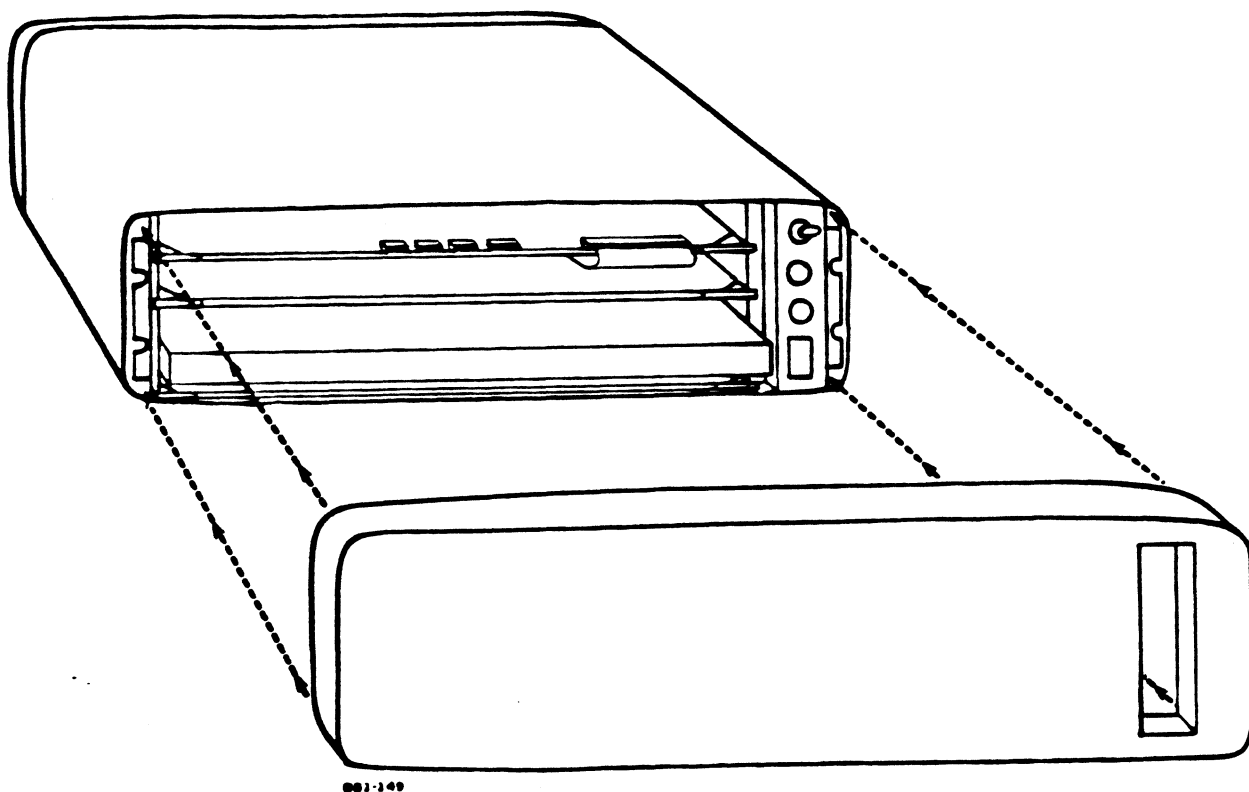

Figure 2-2. Removing the Rear Panel
4. Snap off the rear panel of the computer, as shown in Figure 2-2.